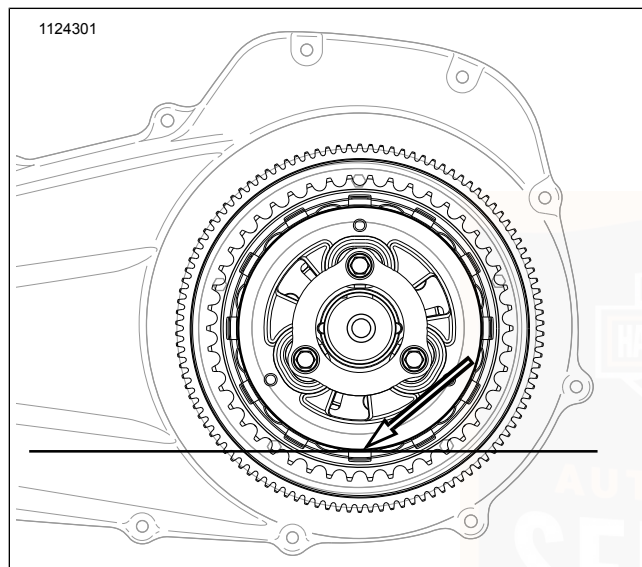

Figure 58. Primary Lubricant Level
- b. See Figure 58. Proper level is approximately at bottom of pressure plate OD.